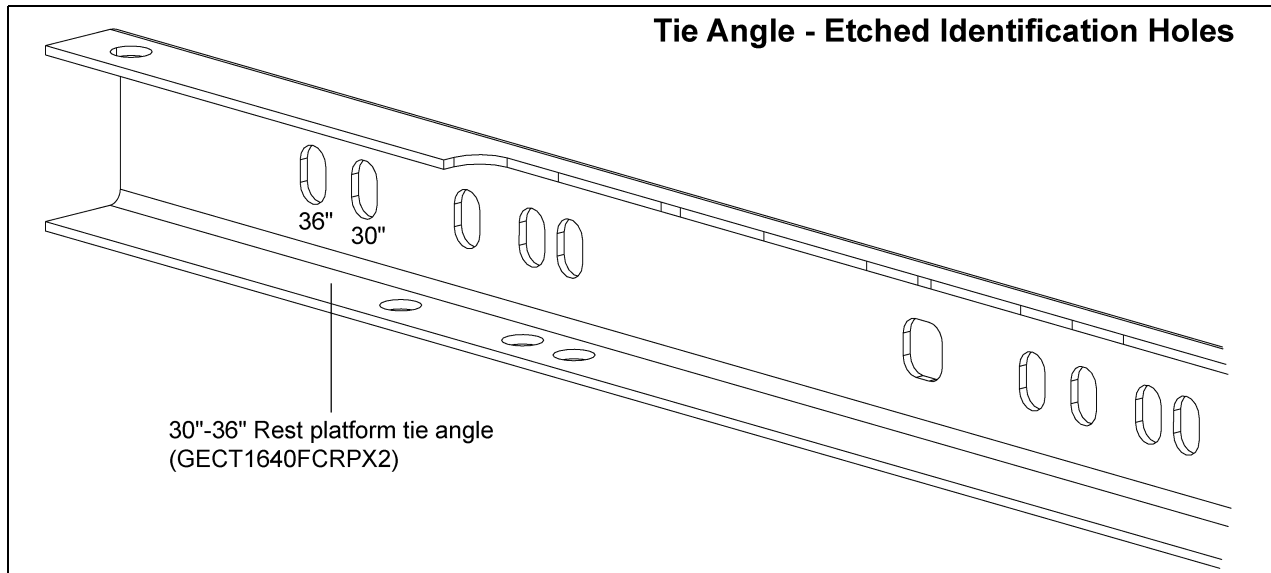

Figure 7A Tie Angle with Etched Numbers
1. Install rest platform tie angles to the lower trunking on both the ladder side and non-ladder side of the trunking. Use 1/2" x 1" bolts through the bolt holes indicated for the bucket elevator size being installed. (See Figure 7A.)